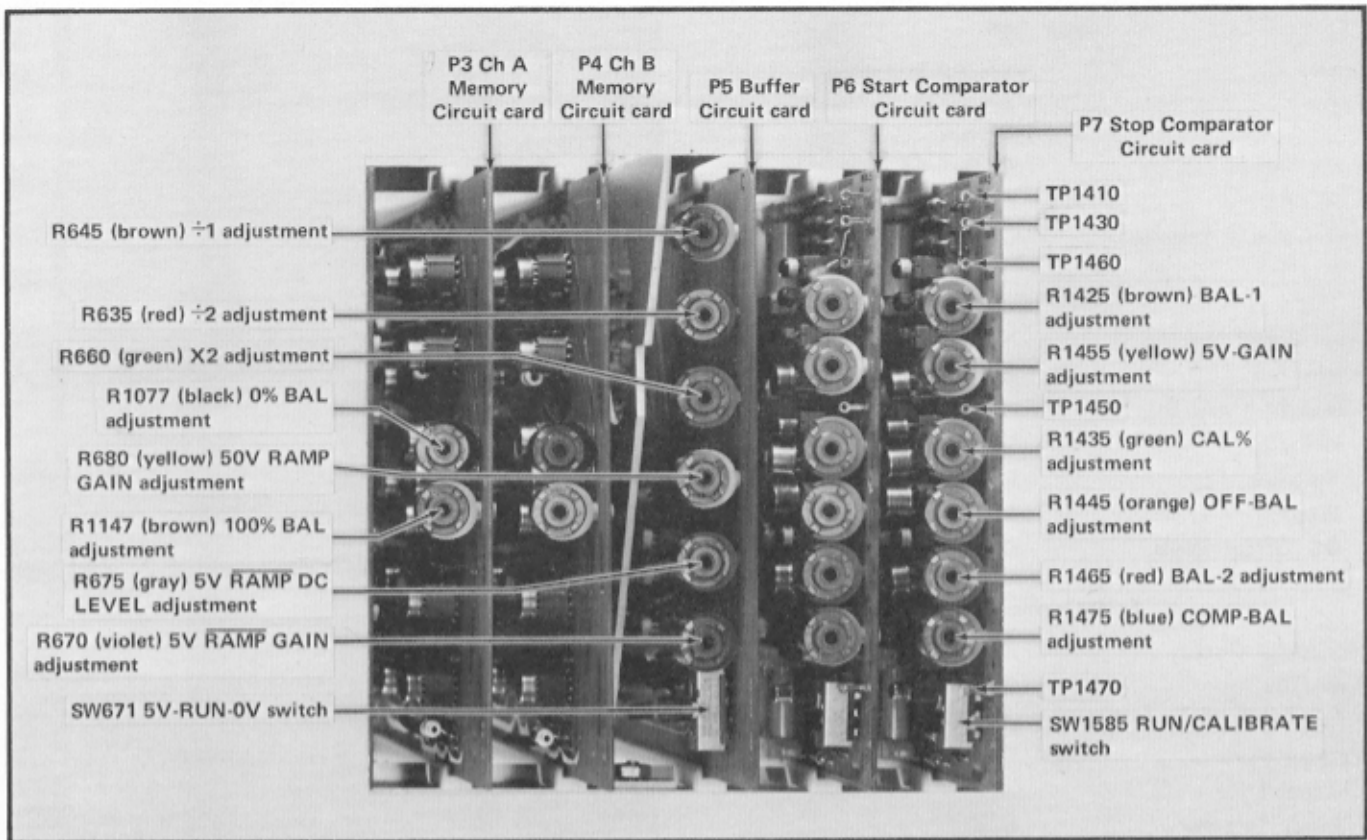

Fig. 7-5. Adjustment and test point locations for steps 11 through 27.
- h. Connect the differential voltmeter between test points 1410 and 1460 on the Start Comparator circuit card (Fig. 7-5).
- j. ADJUST—R1077 (black), 0% Balance adjustment on the Ch A Memory circuit card for a meter reading of 0.000 volt (Fig. 7-5).
- a. Move the negative lead of the voltmeter from test point 1460 to test point 1430 (Fig. 7-5).
- j. ADJUST—R1445 (orange), Off Bal adjustment (located on the Start Comparator circuit card, Fig. 7-5) for a centered trace on the test oscilloscope display. Wait for 1 minute, then readjust if drift has occurred.
- Connect the differential voltmeter between test points 1450 (positive lead) and 1460 (negative lead) on the Start Comparator circuit card (see Fig. 7-5).
- ADJUST—R1425 (brown), Bal 1 adjustment on the Start Comparator circuit card (Fig. 7-5) for a meter reading of 0.000 volt.
- Move the positive lead of the differential voltmeter from test point 1450 to test point 1470 (see Fig. 7-5).
- ADJUST—R1465 (red), Bal 2 adjustment on the Start Comparator circuit card (Fig. 7-5) for a meter reading of 0.000 volt.
- ADJUST—R1475 (blue), Comp Bal adjustment on the Start Comparator circuit card (Fig. 7-5) so that the maximum intensity portion of the noise display is at the center of the display excursion.
- Set the Run/Calibrate switch (see Fig. 7-5) to the Calibrate position.
- ADJUST—R1455 (yellow), 5 V gain adjustment (Fig. 7-5) for a meter reading of +5.000 volts.
- ADJUST—R1465 (red), Bal 2 adjustment (Fig. 7-5), for one-half the error from 5.000 volts if the voltage does not meet the  $\pm 2$  mV tolerance.